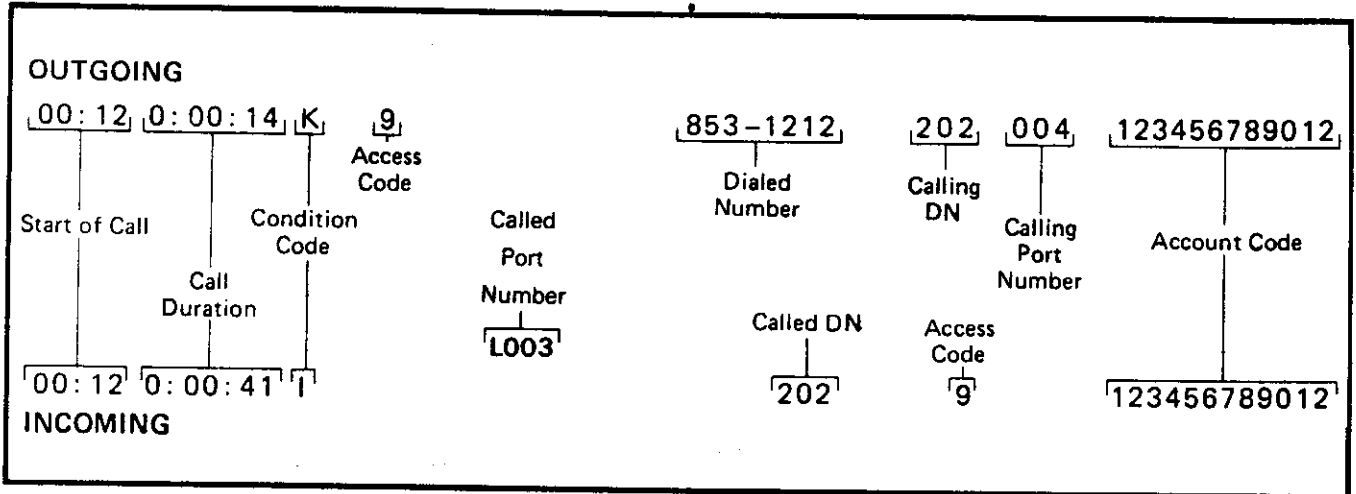

FIGURE 52—EXAMPLE: SMDR CALL RECORD
13.72 Each time a trunk is seized, data regarding that call will be collected up until the trunk is released. The collected data will then be output at the SMDR port in the following format (see Figure 52):